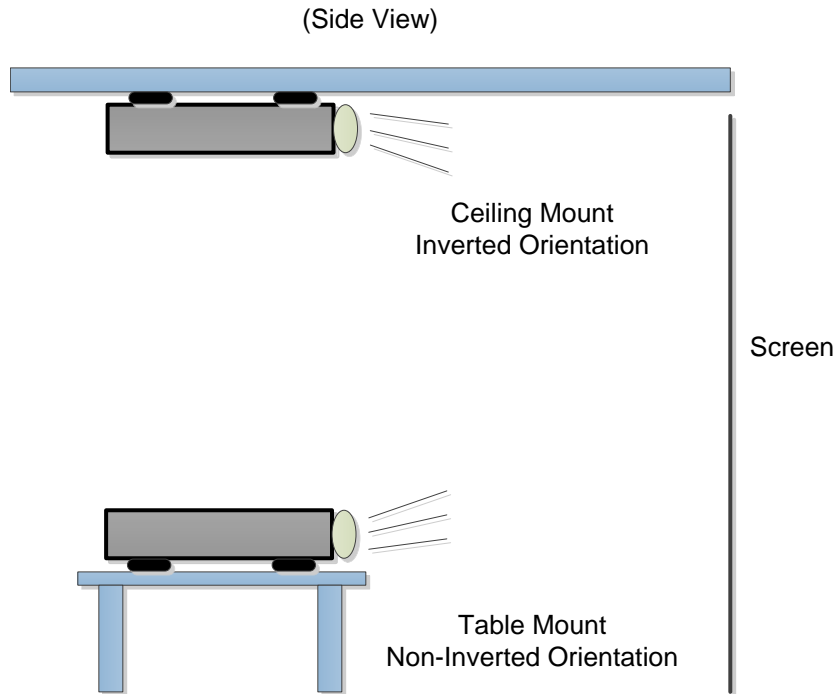

Figure 20. Examples of Non-Inverted and Inverted Projector Orientations
6. Figure 20 shows examples of Non-Inverted and Inverted projector orientation. This information is required for Byte 1 of this command.